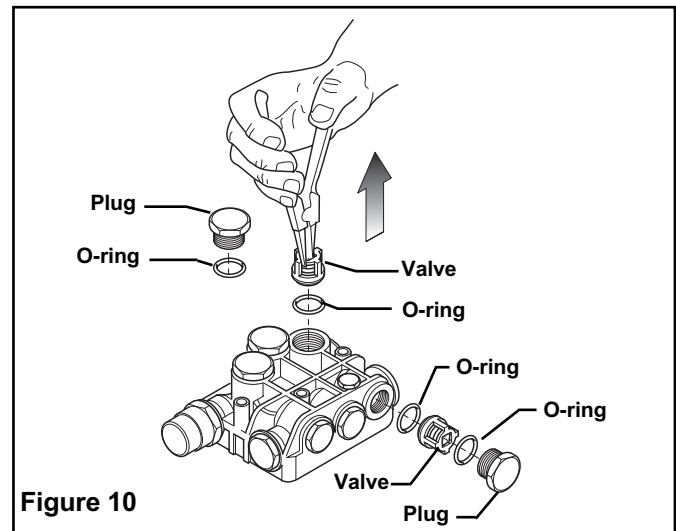

Figure 10
1. Remove the Plugs; then using needle nosed pliers, remove the Valves (See Figure 10).
2. Remove and discard the old O-ring (See Figure 10).
3. Inspect the Valves for signs of debris and/or wear. If worn or damaged, replace the Valves and install new O-rings (See Figure 10).
4. Install the Plugs and tighten them to 25 ft. lbs. [33.9 Nm] torque (See Figure 10).